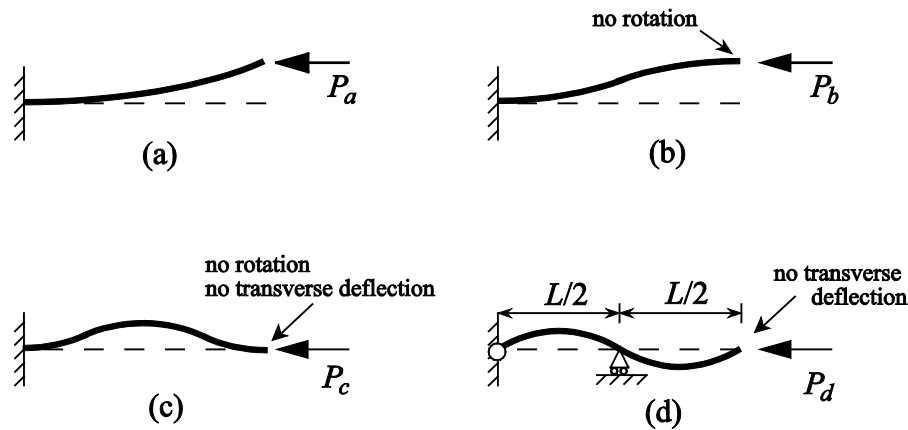

Figure 4
5. Use a geometrical argument to deduce the buckling load of each of the struts of similar cross-section (but with different end conditions) shown in Figure 4 in the buckled state. All the struts are of total length L . Take the Euler load for the basic pin-ended strut as P_E .
6. For the uniform strut shown in Figure 4(a), derive the buckling load $P_a = \pi^2 EI / 4L^2$. Use the differential equation for bending of the strut in its deflected condition and solve it subject to appropriate boundary conditions. [Hint: take the tip displacement as δ and determine the forces and moment acting at the built-in end].